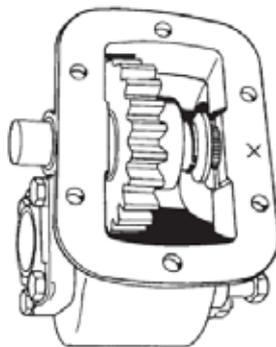

Figure 9 Installing Idler Shaft and Gear
- t.** Push the idler shaft further into the housing and into the idler gear (Figure 9).